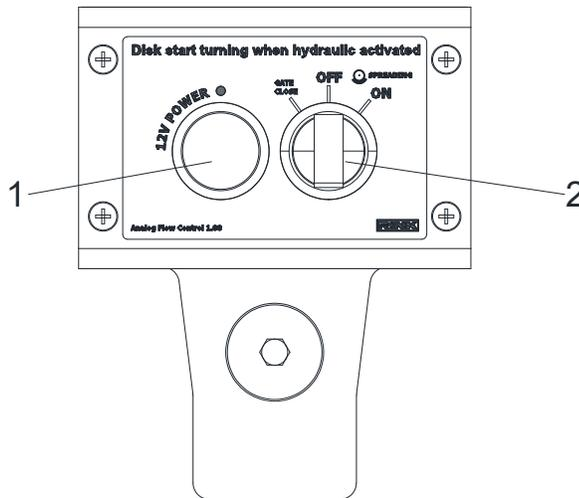

Fig. 36 Analog Flow Control operating device (evo)
1. On/Off illuminated button (Fig. 36/1) lights up. Analog Flow Control operating device is switched on.
4. When the rotary button (Fig. 36/2) is set to "ON", the gate opens and the conveyor unit accelerates to the set transport speed.
6. When the rotary button (Fig. 36/2) is set to "OFF", the conveyor unit is stopped.
7. When the rotary button (Fig. 36/2) is set to "Gate close", the gate starts to close. The rotary button must be pressed until the gate is closed.